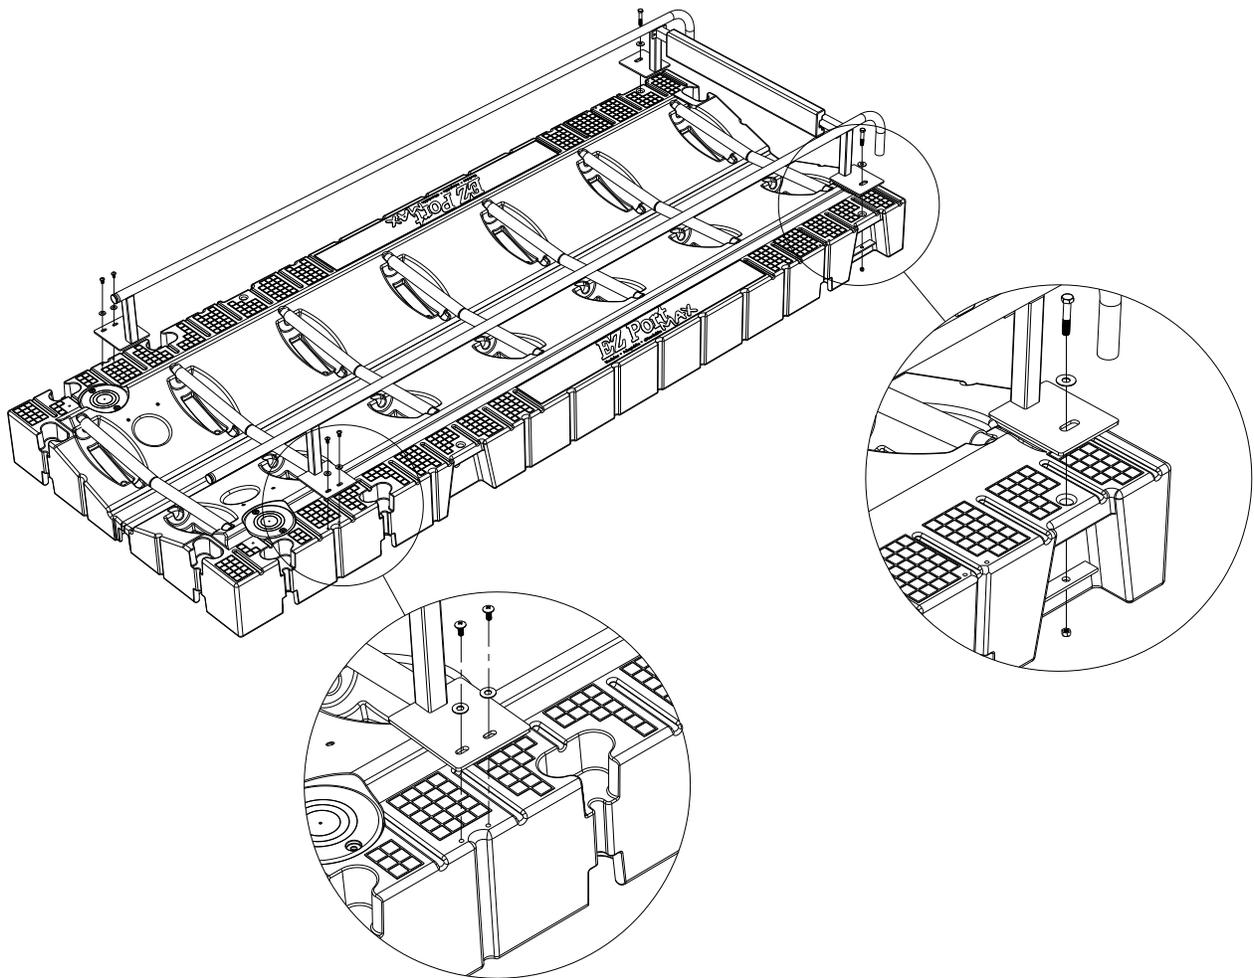

Figure 8
- Place a 1/2" washer on a 1/2-13 x 2 3/4" hex head bolt and insert it through the large slotted hole on the rail assembly and larger hole in the port. (Figure 8)
The barrier handrail is available for use with the EZ Launch access rails. There is a left (500906L) and a right (500906R) rail. Right rail is shown in Figure 8.